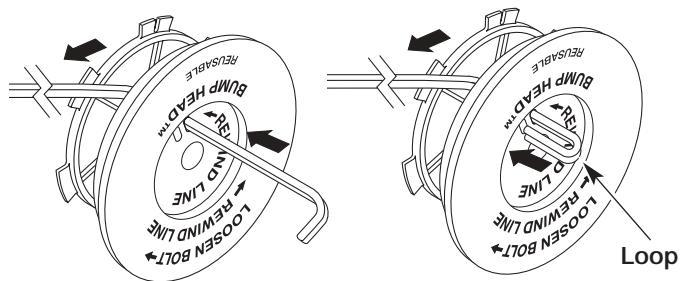

Fig. 33
8. Take approximately 9 feet (3 m) of new trimming line. Insert one end of the line through one of the two holes in the inner reel (Fig. 33). Pull the line through the inner reel until only about 4 inches is left out.
9. Insert the end of the line into the open hole in the inner reel and pull the line tight to make the loop as small as possible (Fig. 33).